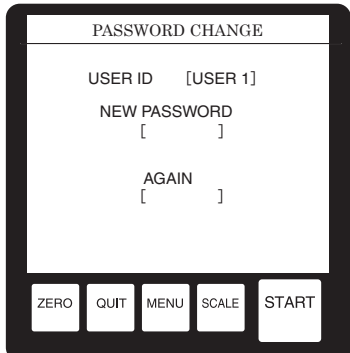

Fig.7-9
c) The USER ID entry screen will be displayed (Fig.7-9).